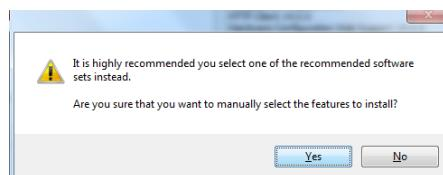

Figure 31: NI MAX - NI Veristand Engine installation 1
3. Ignore the warning, See Figure 31